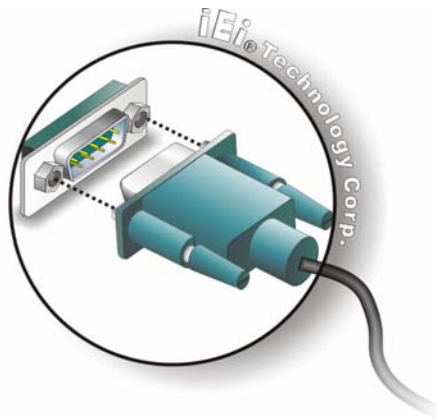

Figure 3-38: RS-232/422/485 Serial Device Connector
Step 2: **Insert the serial connector.** Insert the DB-9 connector of a serial device into the DB-9 connector on the external peripheral interface. See **Figure 3-38**.